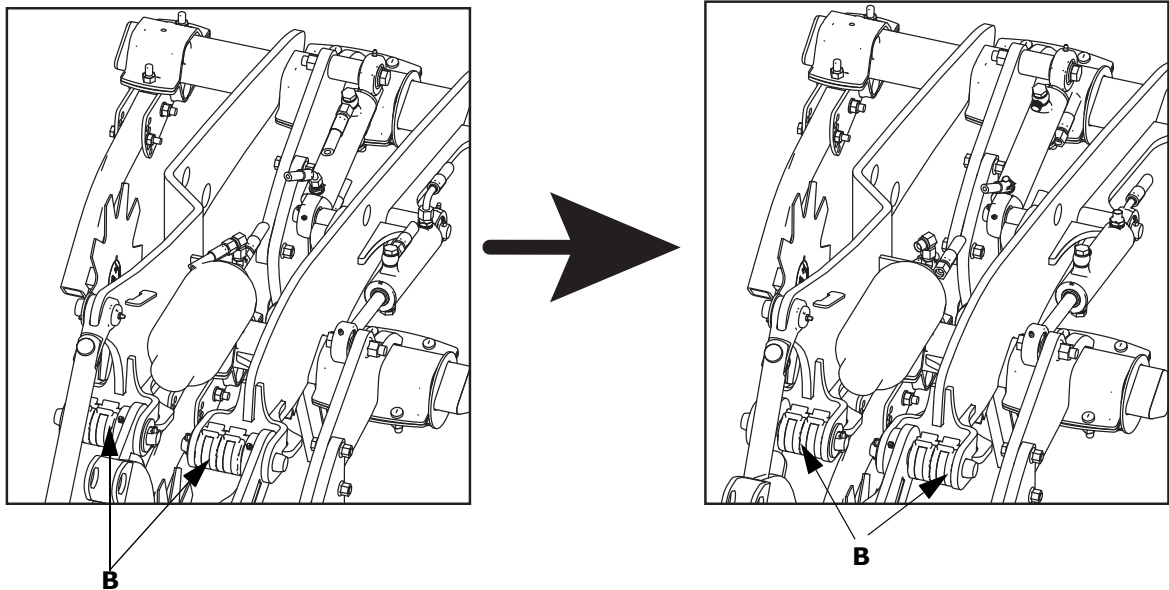

Figure 1.18 From drilling oilseed to drilling grain
- 2 Remove the spacer (B) from the front tool ("Figure 1.18").
- 4 Fit the spacers (B) to the other side of the bolts.